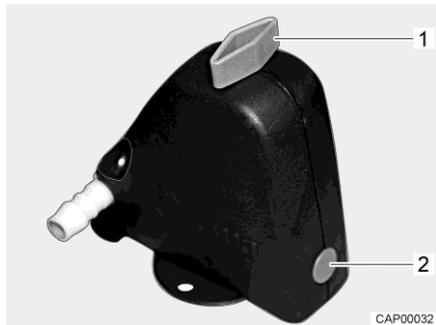
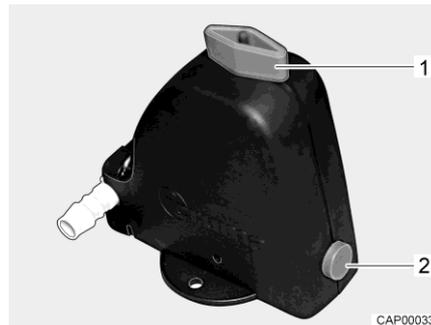

Fig. 125 Safety/drainage valve closed
Fig. 126 Safety/drainage valve open
- Open the safety/drainage valve (Fig. 125). To do this, turn the knob (Fig. 125,1) parallel to the safety/drainage valve. The push button (Fig. 125,2) jumps out. The open safety/drainage valve is shown in Fig. 126.